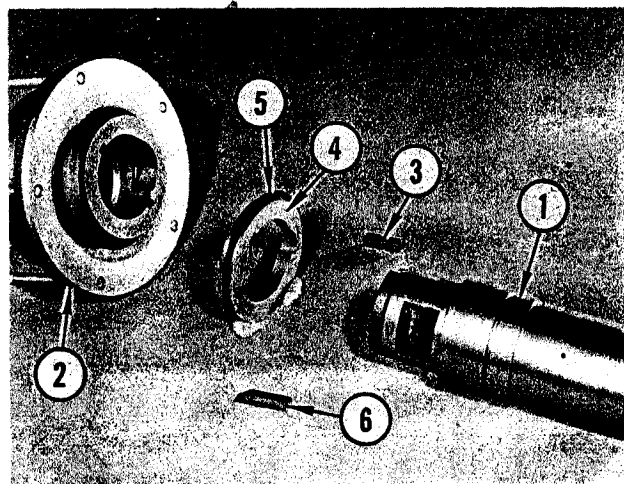

FIGURE 28. REACTOR SLEEVE DISASSEMBLY
Refer to Figure 28. Place assembly in arbor press and remove sleeve (1) from hub (2). Remove short key (3) from sleeve. Remove ring retainer (4) from sleeve. Remove piston ring (5) from ring retainer. Remove long key (6) from sleeve. Note the two milled surfaces on sleeve. One has three holes; the other is blank. During assembly install ring retainer so that crescent shape cut on inside diameter of ring retainer is over the blank milled surface. This is important for proper flow of oil through converter.